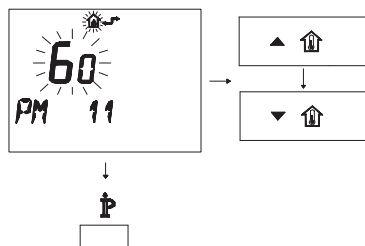

Fig. 8.21
- To modify the programmed SET, act on buttons or and wait for the programmed number to flash (Fig. 8.21). Each step increased or decreased corresponds to 1 second.